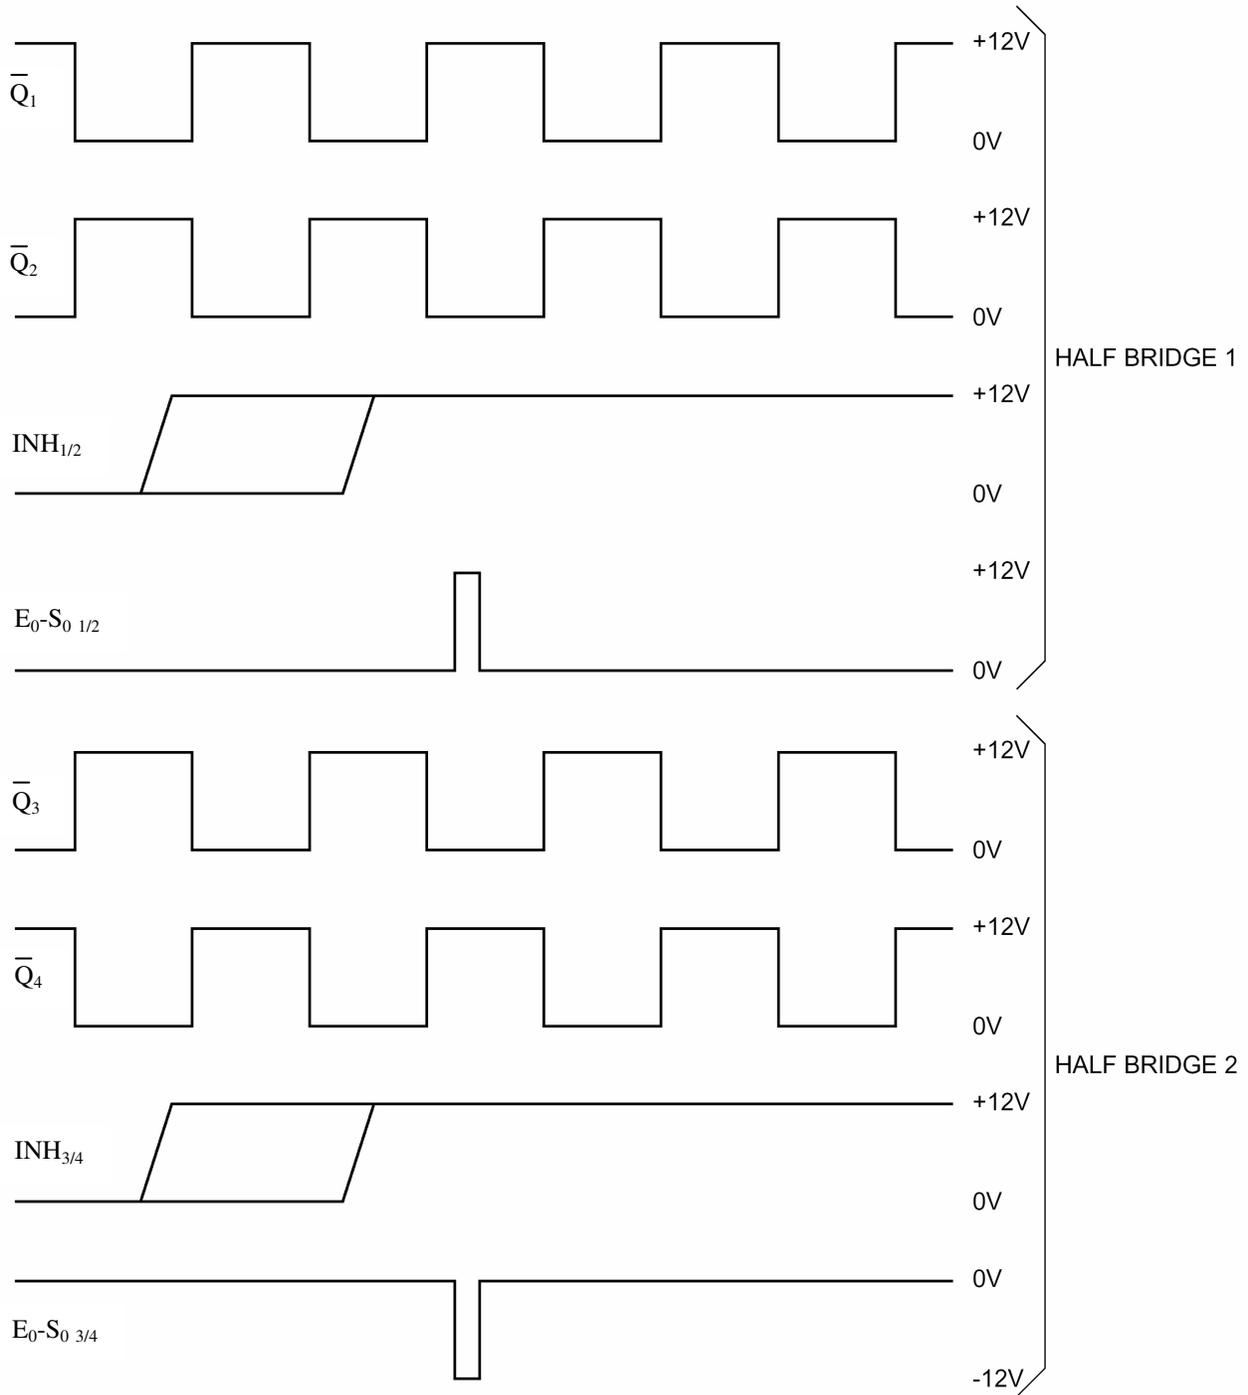

Figure 11: example of input signal for 4 x APTLGF280U120T modules connected in a Full Bridge configuration
• The startup signal, between E0-S0, may also be implemented by a negative pulse synchronized with input signal Q being low and forcing the lower switch to turn ON. Examples of both startup sequences being used in the startup of a full – bridge configuration is shown in figure 11.